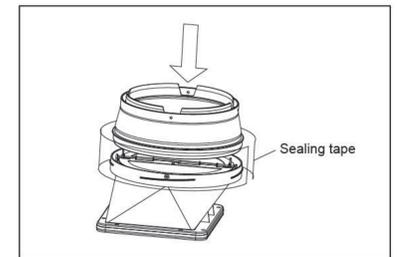

fig11
- Remove the outlet housing connecting rings from the plastic packaging bag of the smoke tube, put one end of the large diameter on the outlet housing, and fix and seal the outlet housing and the outlet housing connecting rings with butyl tapes. (fig11)